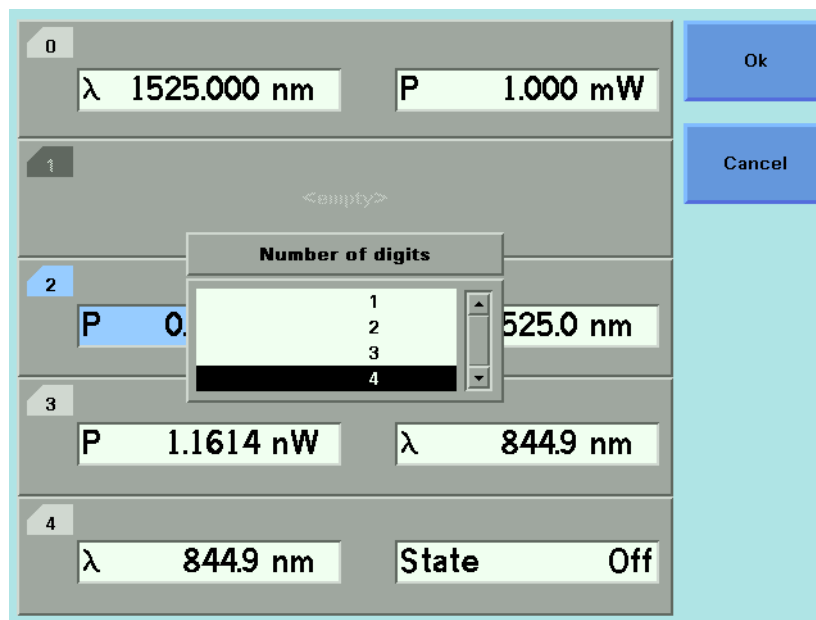

Figure 41 The Number of Digits Menu
- 2 Move to $\langle \text{Number of Digits} \rangle$ option and press *Enter*. You will see the screen in Figure 41.